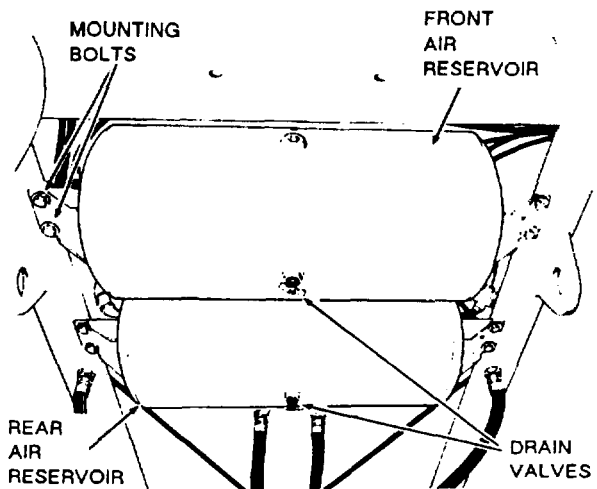
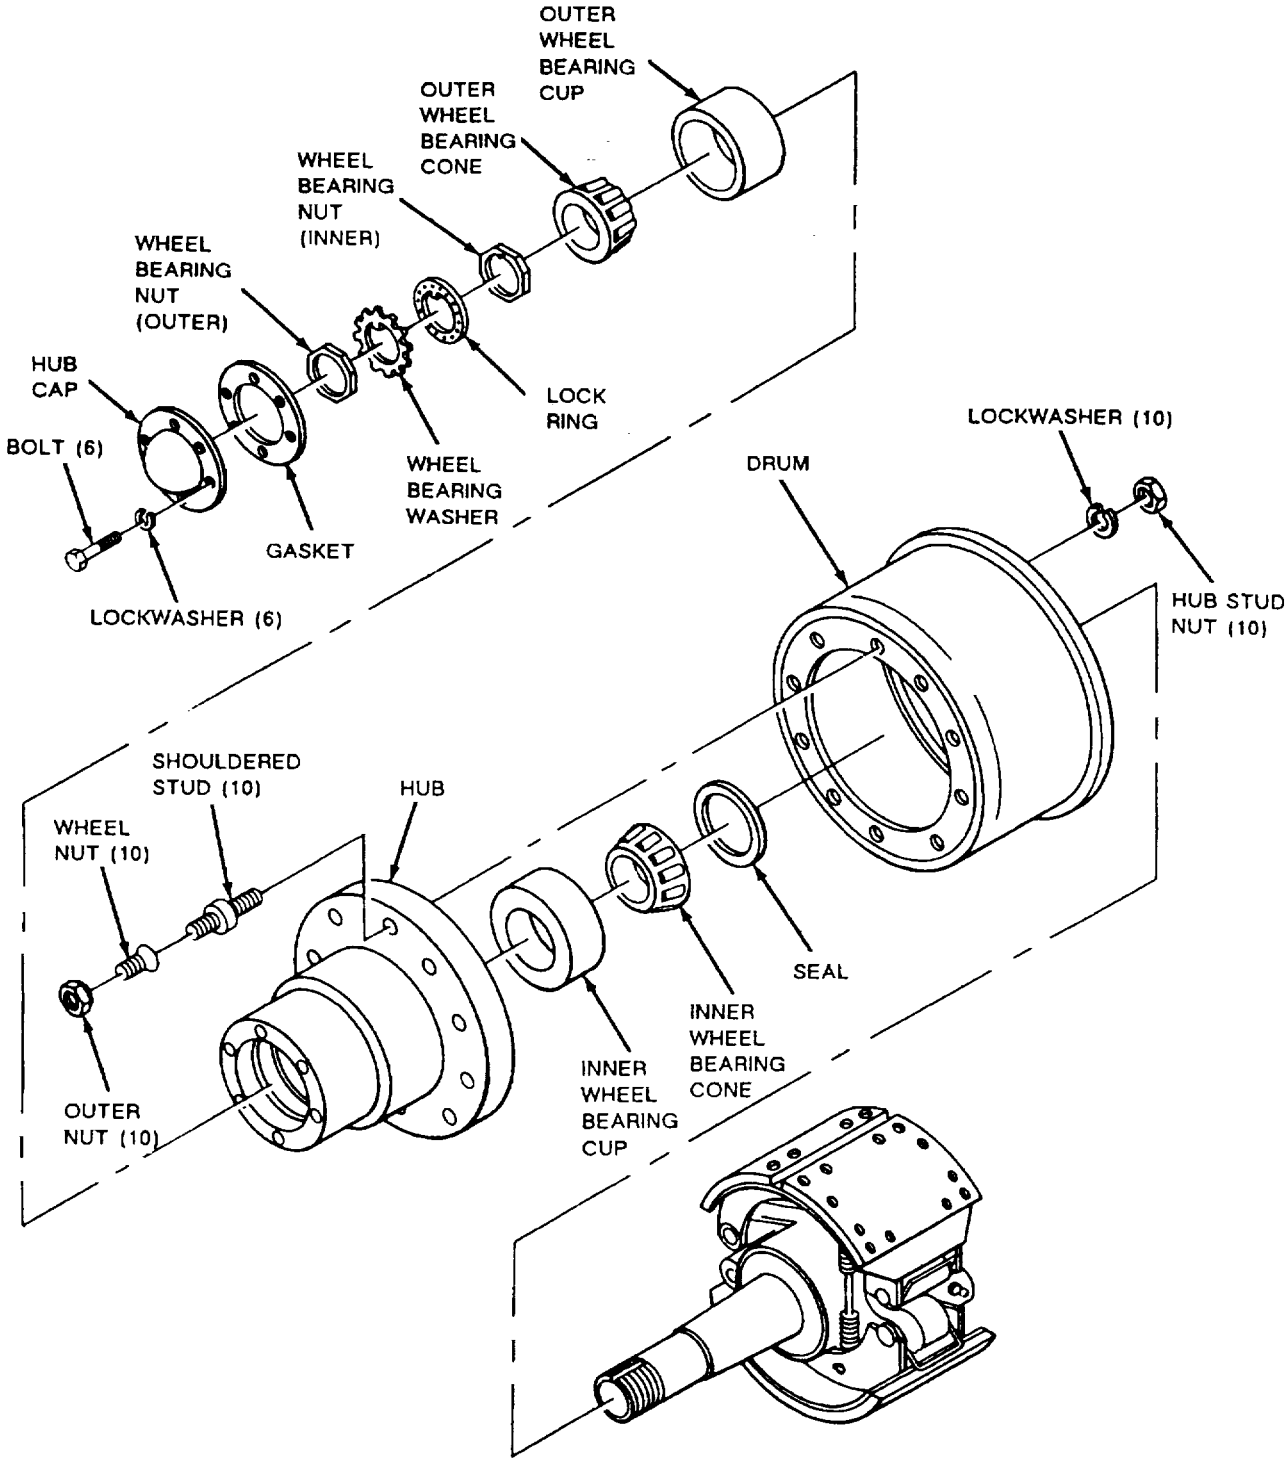

Figure 4-54. Air Reservoirs.
Figure 4-60. Hub, Drum, and Wheel Bearings
(1) Block semitrailer wheels to prevent movement.
(2) Disconnect towing vehicle and / or air brake lines and open air drain valves on bottom of both reservoirs, fig. 4-54. Leave open while replacing valve.
(3) Tag air lines for identification at assembly. Disconnect hose and tube fittings from valve. Remove double check valve and unscrew valve from nipple in reservoir.
(4) Screw new valve into nipple. Install double check valve, and reconnect hose and tube fittings.
(5) Close air drain valves in both reservoirs. Connect towing vehicle and fill the reservoir.
(6) Test service brakes and parking brakes as described in part a.
(7) Remove blocking from semitrailer wheels.
4-47. Air Reservoirs, Fig. 4-54.
(1) Block any of the tires that are not being removed.
(2) Manually compress fail-safe chamber power spring, para NO TAG
(3) Release air pressure by opening drain valves on both air reservoirs, fig. 4-54.
(4) Jack up axle until tires are clear of ground. Support axle with jack stand or blocking.
(5) Remove six bolts and lockwashers securing hub cap to hub, fig. 4-60. Remove hub cap and hub cap basket. Discard gasket.
(6) Remove outer wheel bearing nut, wheel bearing washer, lock ring, and inner wheel bearing nut.
(7) Place wheel lift jack under wheel and raise jack until weight is removed from bearing.
(8) Remove outer wheel bearing cone.
(9) Remove tires, wheels, hub and drum as an assembly.
c. *Replacement of Wheel Bearings, Fig 4-60.*
(b) Remove seal with a seal puller and remove inner wheel bearing cone, fig. 4-60.
(3) *Installation, Fig. 4-60.*
(1) Removal, Fig. 4-60.
(2) Installation, Fig. 4-60.